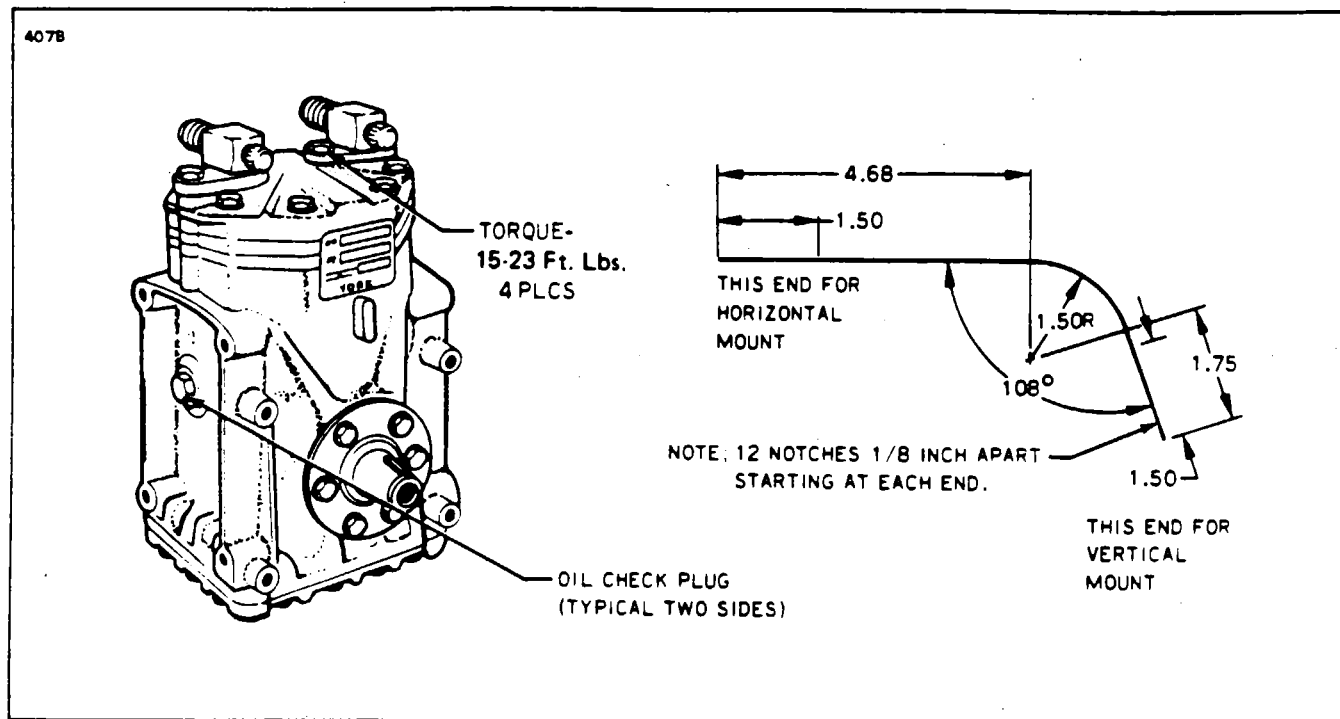

Figure 21-11. Compressor and Fabricated Oil Dipstick
2. Fabricate an oil dipstick. (Refer to Figure 21-11.)
4. Before inserting the dipstick, the crankshaft Woodruff key should be located in the up position. (The front face of the compressor clutch is marked with a stamped "K" indicating the key position.) The oil level should be measured from the lowest point in the crankcase. Use the long end of the dipstick. (See Figure 21-11.)